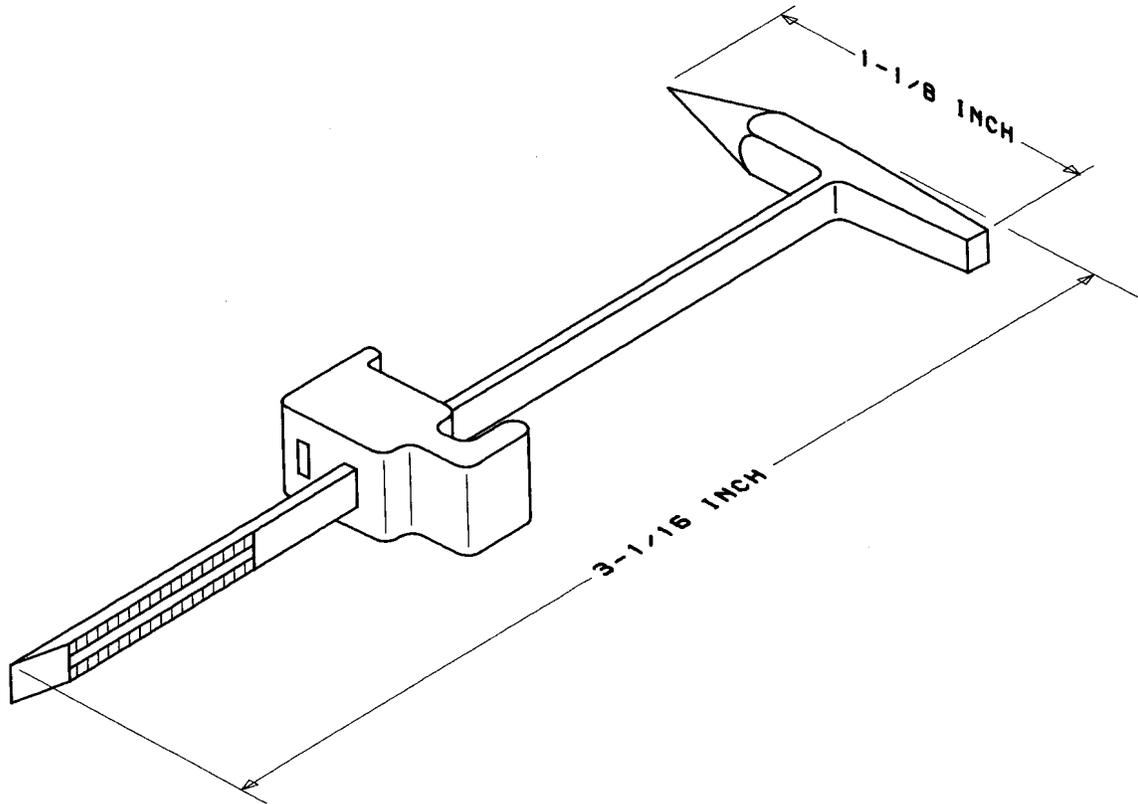

Fig. 2—B Wallboard Clamp
2.03 The B wallboard clamp (Fig. 2) is a molded plastic, two part clamp designed to hold station wire (D and H), inside wiring cable, and customer convenience cords to the dry wall or plasterboard surface.